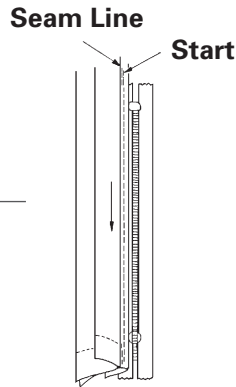

Fig. 9-4
7. Close the zipper and turn it face up. Keep the garment to the left of the needle. Fold the seam allowance away from the zipper and pin in place. Move the zipper foot to the left side of the needle. With a regular stitch, sew through the folded edge of the seam allowance and the zipper tape from the bottom to the top of the zipper. This row of stitching should be close to the zipper teeth. (Fig. 9-4)